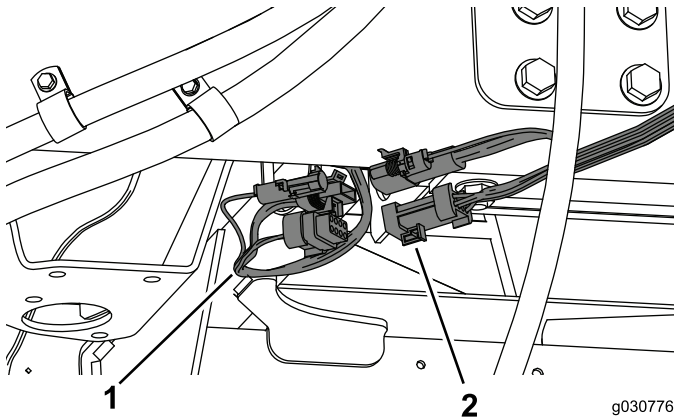

Figure 45
1. Connect the wire harness from the cab to the wire harness on the right side of the machine (Figure 45).